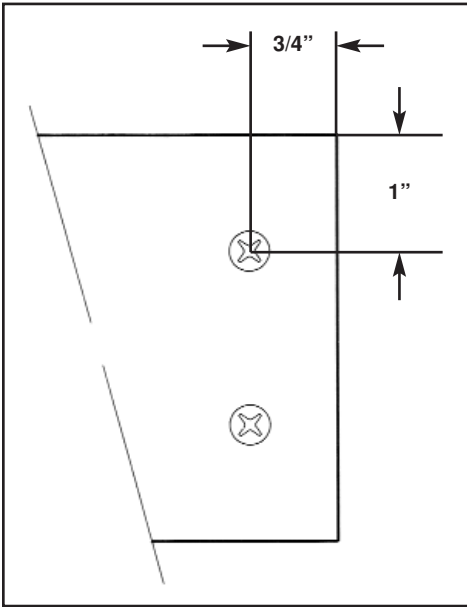

Figure 1
1. Drill holes in boards (C), (E), (F), (H) and (K). Refer to Figures 1 through 4.